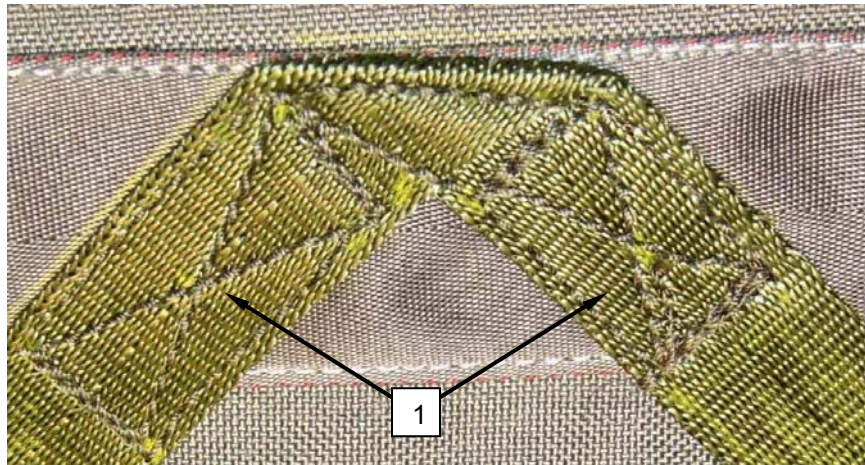

Figure 44. Box X Stitch Sewn on the Upper Diagonal Back Strap Keeper.
19. Sew two box X stitch patterns $1\frac{5}{8}$ -inch in length with locking stitch on the upper portion of the diagonal back strap keeper (Figure 44, Item 1).